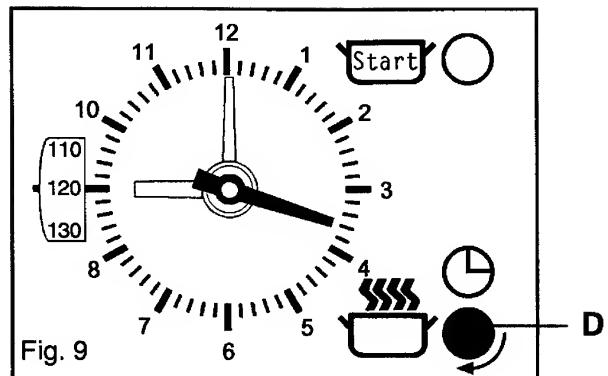

Fig. 9
- iv) To set the length of time you want the food to cook; turn setting knob (D) clockwise, **without pulling it out**, until the required cooking period can be seen in the display window, e.g. 120 minutes (2 hours) and Fig. 9.